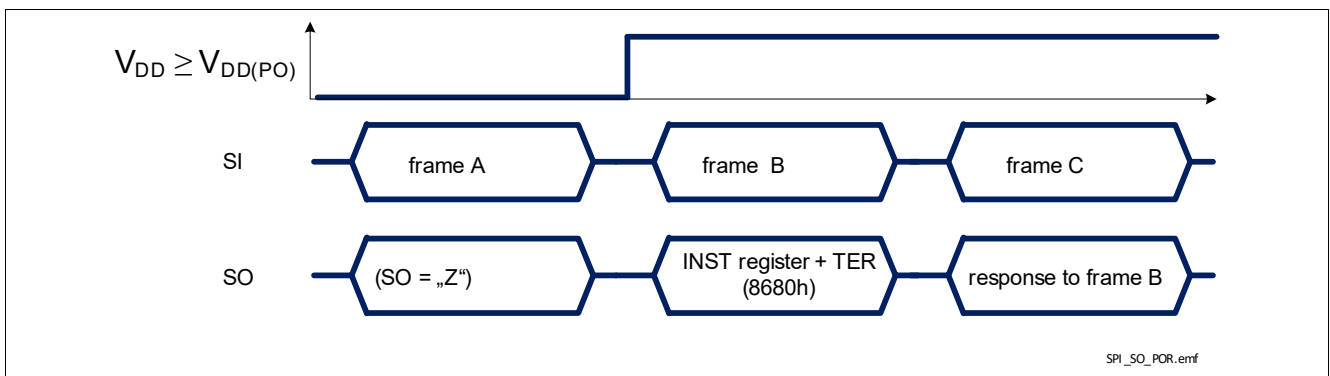

Figure 36 TLE75080-ESH response after coming out of Power-On reset at V_{DD}
- when TLE75080-ESH logic supply comes out of Power-On reset condition or after a Software Reset, as shown in **Figure 36**